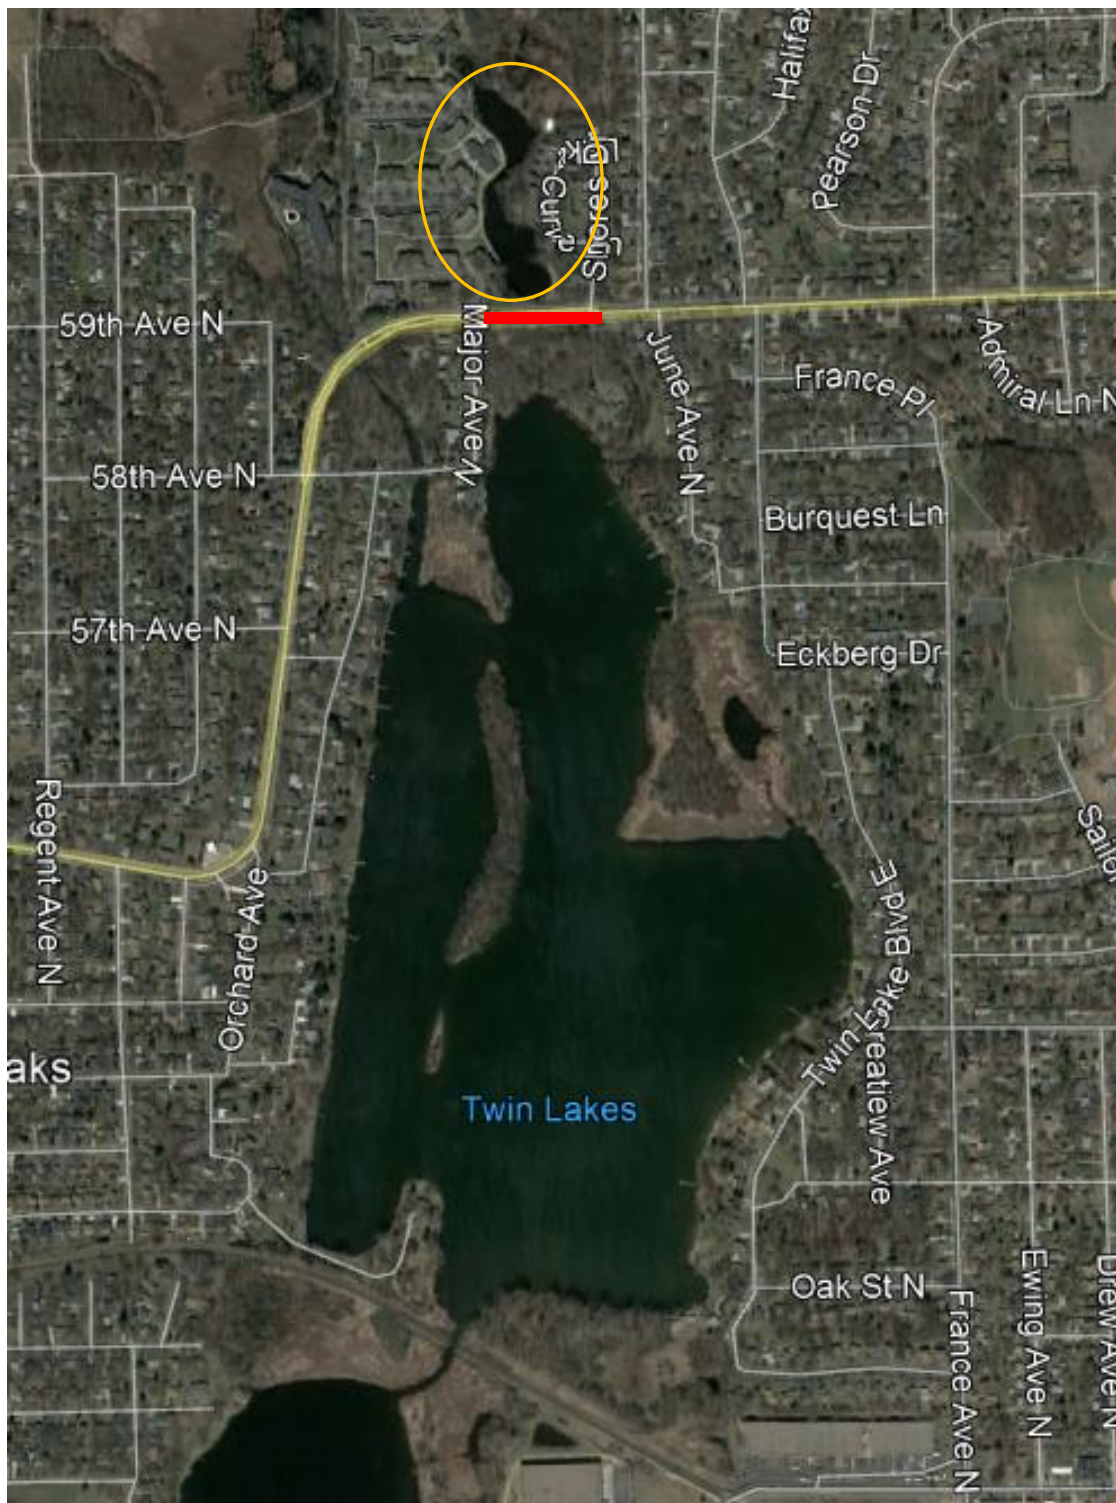

Figure 1. Location of proposed barrier (red line) to prevent movement into the stormwater pond north of Bass Lake Road (orange circle).
- 3) The stormwater basin on the north side of Upper Twin Lake was believed to be a potential recruitment area (Figure 1). The MnDNR supported this idea based on evidence that carp moved into the basin during high flow conditions. Implementation of a fish barrier to prevent seasonal migration of carp into the basin was proposed and agreed with by MnDNR.